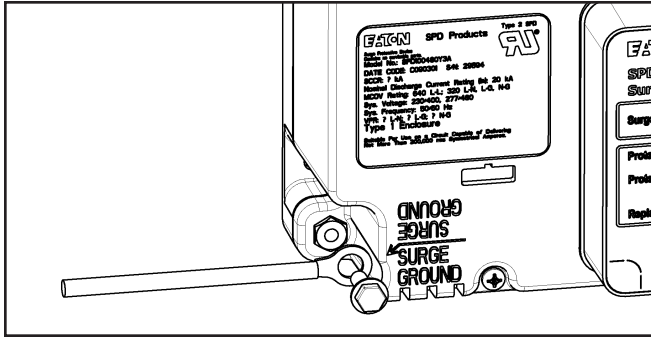

Figure 11. Ground Connection
- Connect the System Ground wire (green) to the SPD's Surge Ground connection using a ring terminal suitable for use with a #10 fastener and a #10-32 x 3/8" fastener (customer supplied). Tighten the Surge Ground connection to 4.1 Nm (36 in-lbs). If the system uses an isolated ground, connect the isolated ground wire to Surge Ground. There are two Surge Ground connection points provided on the SPD. Connect **only one** of them. See Figure 11.
6. Connect the System Ground wire (green) to the SPD's Surge Ground connection using a ring terminal suitable for use with a #10 fastener and #10-32 x 3/8" fastener (customer supplied). Tighten the Surge Ground connection to 4.1 Nm (36 in-lbs). If the system uses an isolated ground, connect the isolated ground wire to Surge Ground. There are two Surge Ground connection points provided on the SPD. Connect **only one** of them. See Figure 11.